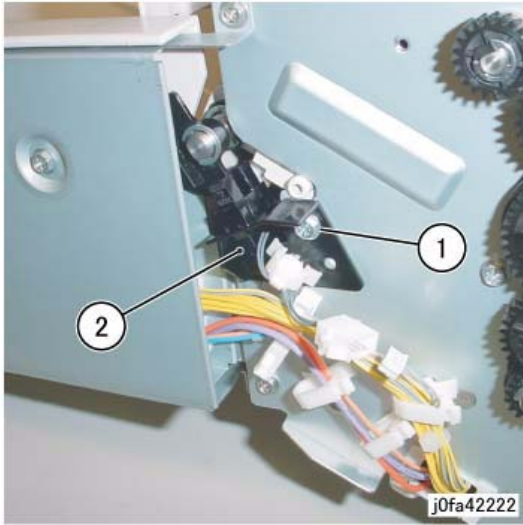

Figure 2 Removing the Set Clamp Home Sensor Assembly
5. Remove the Set Clamp Home Sensor Assembly (Figure 2):